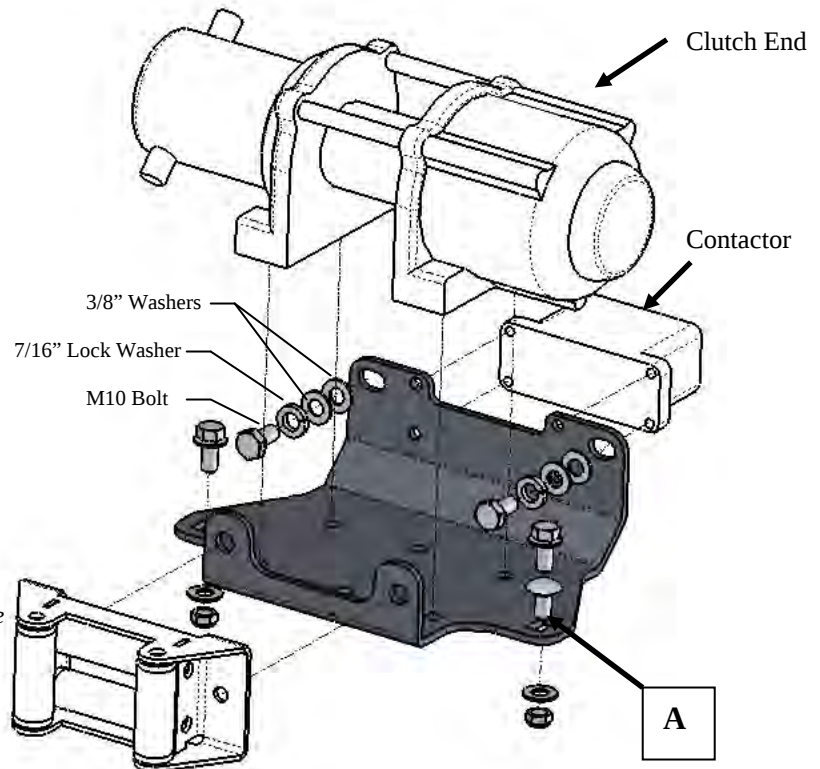

Figure 1
NOTE: If you are installing a winch that has clutch end similar to the Warn 3.0 (shown in Figure 1) you will need to use the supplied carriage bolt [A] in place of the standard 3/8” bolt on the clutch side of the mount for clearance of the bottom clutch housing. Put the carriage bolt into position on the mount before mounting your winch to the mount. (Figure 1)
1. Begin by assembling your Winch and Fairlead to the mounting bracket using the hardware that was supplied with your Winch and Fairlead. (Figure 1)
2. Place the Winch assembly from Step 1 into the OEM mounting location and assemble it to frame with the supplied hardware. (Figure 1 & 2)
3. OPTIONAL: Mount your contactor to the Mount Plate using the hardware that was supplied with your contactor. (Figure 1)